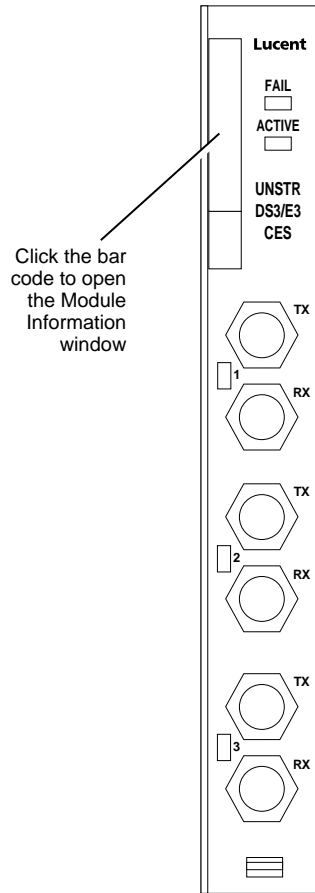

Figure 5-13. Obtaining Hardware Data from a Module
- 1 Double-click the bar code image on the Front Panel (see Figure 5-13), or click the name of the module in the Device Tree.